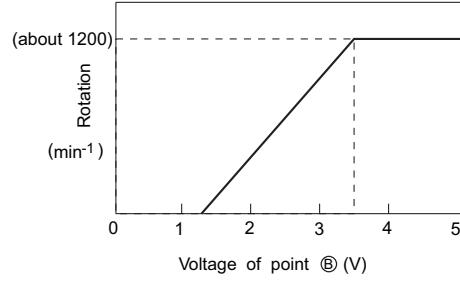

Fig. 5-3
- This pulse changes to analog voltage by R751 and C751 and it is applied to the fan motor as instruction voltage number of rotations. The relationship between the voltage of point ④ and number of rotations becomes as shown in Fig. 5-3. (The gap may arise depending on the condition of unit.)
- The feedback pulse of number of rotation is outputted from the fan motor and input to micro computer pin ⑭. The frequency of this pulse is 12/60 of the number of rotations. (Ex: 1000min-1 × 12/60=200Hz) The microcomputer observes this frequency and to make it as the instruction number of rotation all the time, adjusts the output pulse width of pin ⑩.